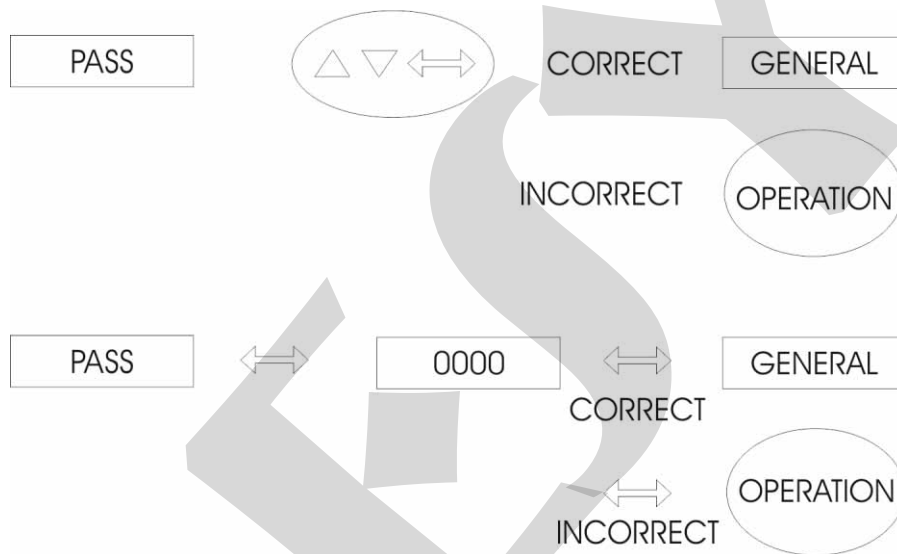

Fig.6 - Password through key sequence or value
- ii) To display the PASS warning, indicating that the instrument is provided with a password system (a key sequence or a value), according to figure 6.
For a value password, the user must press the ENTER key for a second time in order to view the number 0000 with the right end digit blinking. The position which is blinking indicates the digit in the number to be changed by the user with the UP and DOWN keys. Move to the digits on the left by pressing ENTER. After entering all digits, press ENTER again. If the password is correct level 1 is accessed; otherwise, it returns to normal operation (see figure 6).